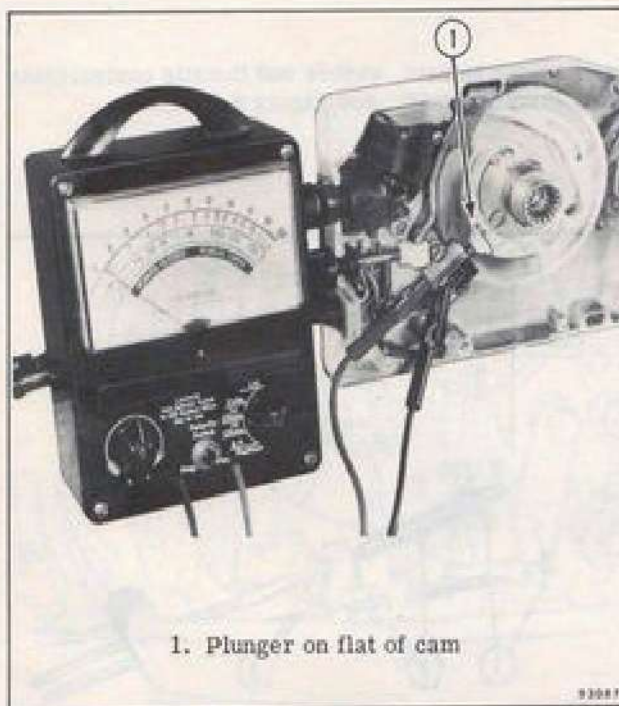

Figure 8-3. Testing Neutral Start Switch
- c. Connect a test light or ohmmeter to neutral start switch. See Figure 8-3.